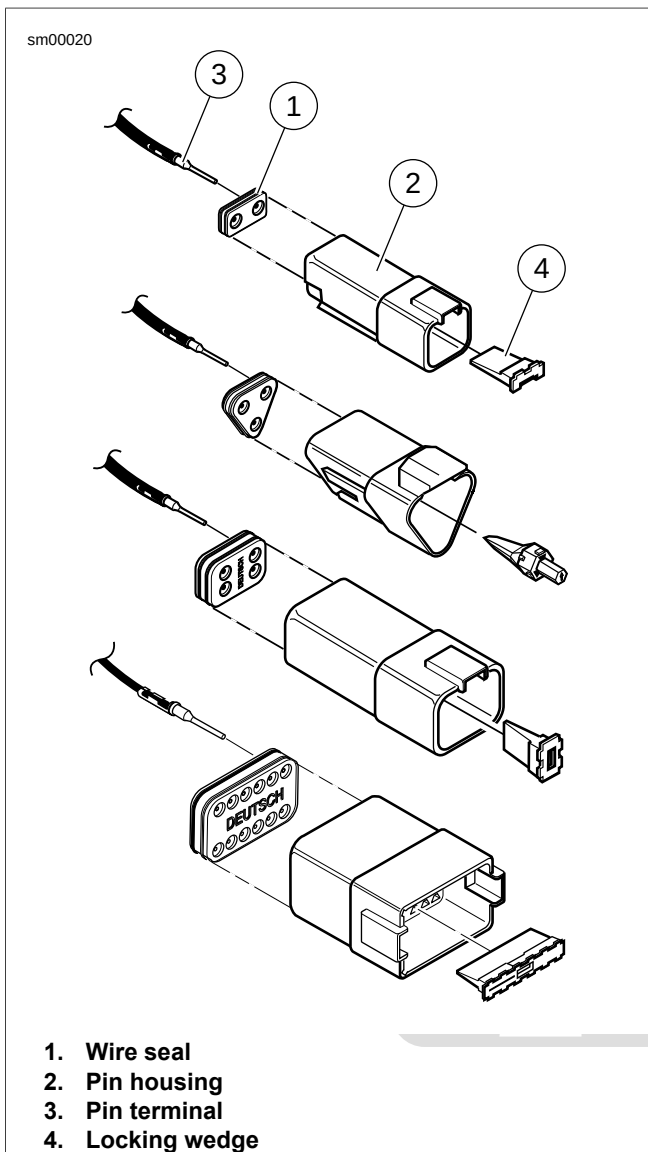

Figure A-34. Deutsch DT Sealed Connector: 2, 3, 4 and 12-Place Pin Housings
1. See Figure A-34. Fit wire seal (1) into back of pin housing (2).
2. Grasp wire lead approximately 25.4 mm (1.0 in) behind the pin terminal (3). Gently push pin through holes in wire seal into its respective numbered chamber until it "clicks" in place.